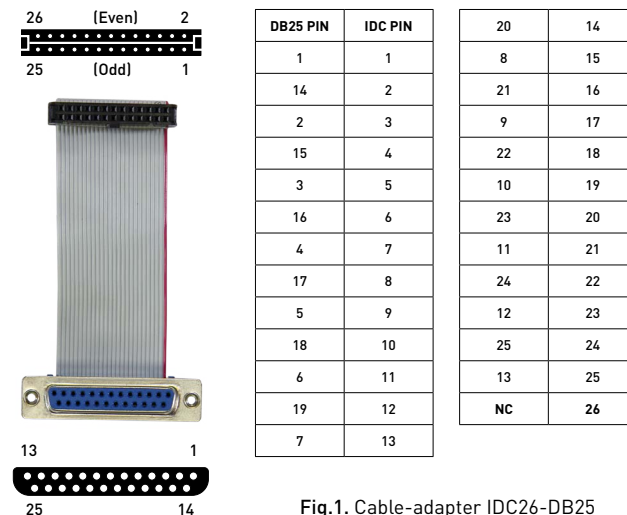

Fig.1. Cable-adapter IDC26-DB25
- Controller has 3 ports (XP1, XP2, XP3), which are similar to PC LPT-port according to destination and pins numbering (Fig. 1). Adapter scheme (according to Fig. 1) allows to receive full LPT port analog from any PLCM-E3 port. One such adapter is included in the delivery set.